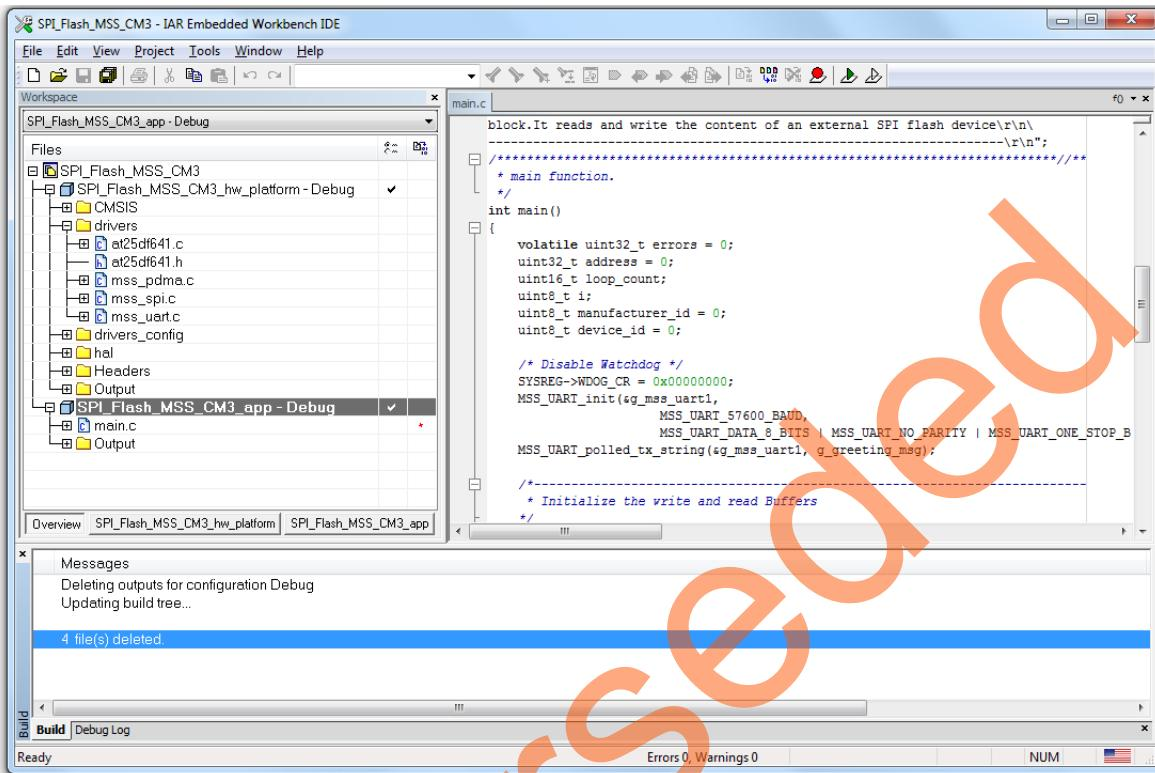

Figure 35 • IAR Workspace - Deleted Files
20. After cleaning the project, the **Messages** log section shows that some files are deleted as shown in Figure 35.